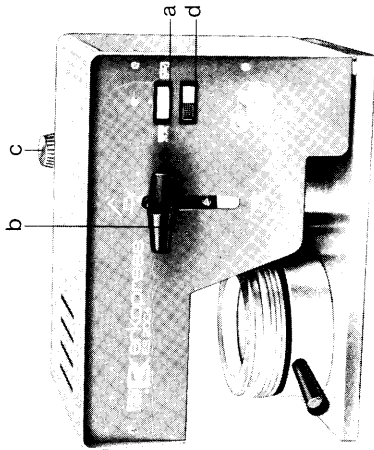

Fig. 1
Description (fig. 1)
1. Connect machine to a compressor air line with a high pressure flexible hose (Fig. 1/c).
4. Switch on infra-red heater, press button (Fig. 1/a), (turn to the left [Fig. 1/d], pilot lamp flashes green).
7. Put device for protective shield down (Fig. 1/b).
8. Switch on the blow-head (Fig. 1/a) (switch turned to the right – pilot lamp [Fig. 1/a] flashes white).
10. Turn switch (Fig. 1/a) to "0" (mid-position).
11. Lift device for protective shield, (Fig. 1/b) take out the flask.